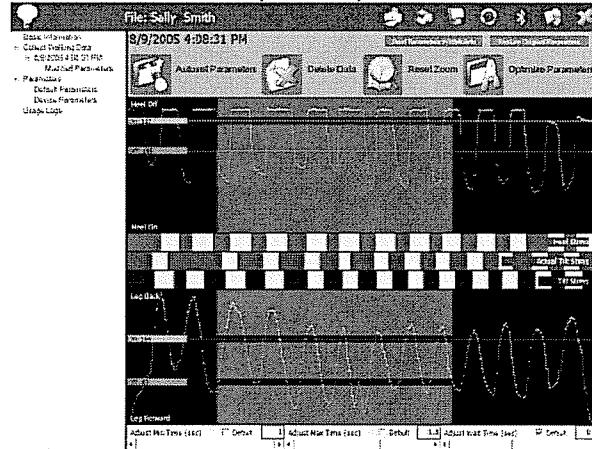

Figure 24 – Zoom screen.
2. Click on the 'Optimize Parameters' button. Choose the desired reference signal (i.e. Heel or Hand) and the signal to be optimized (i.e. Tilt or Heel) and press the 'Start Computation' button (Figure 24). This process takes a few seconds and will automatically modify the thresholds and time(s) in the tilt data to best match the desired reference signal.
3. A subset of the collected data may be selected for analysis by clicking in either the Heel or Tilt Sensor window and dragging the light pink zoom box over the “good” data (Figure 24). If selected first, the ‘Autoset Parameters’ and ‘Optimize Parameters’ buttons will set parameters based only on the selected data. (This may be appropriate for a client with limited walking abilities or an inconsistent walking trial that could not be repeated.)